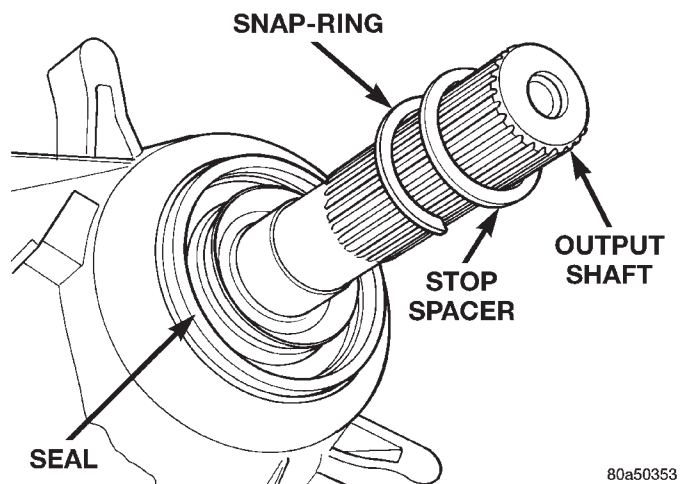

Fig. 7 Slinger Stop Spacer and Snap-ring
(3) Remove slinger stop spacer and snap-ring from output shaft (Fig. 7).